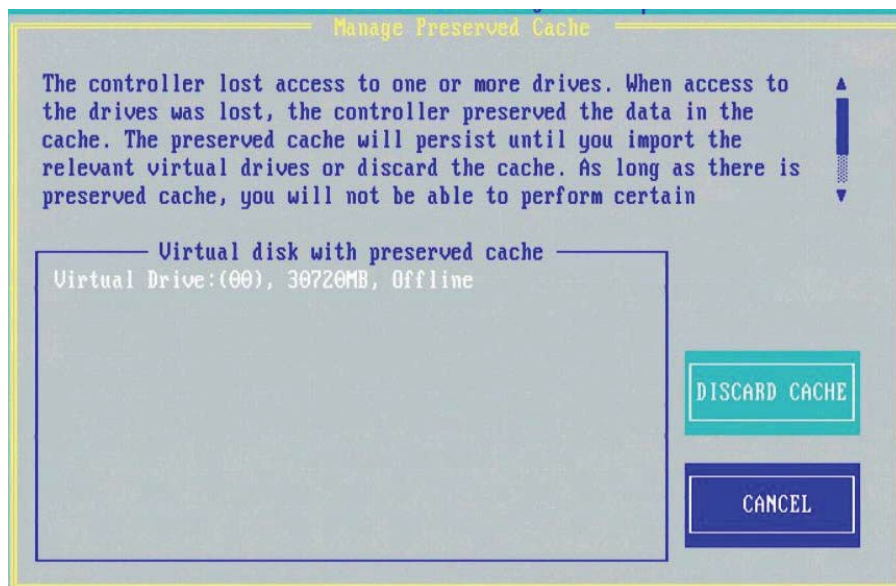

Figure 54. RCU – manage preserved cache
2. Navigate to **Manage Preserved Cache** and press <Enter>. The Manage Preserved Cache dialog appears (Figure 54).